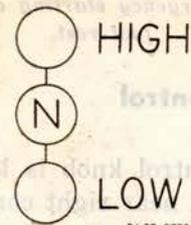

Figure 18. Shifting diagram for transfer gear shift lever.
low-speed range for rough or hilly driving conditions. The gears are in low-speed range when shift lever is in extreme rear position LOW (fig. 18), in high-speed range when lever is in extreme forward position HIGH and in neutral N when in center position.
b. Be sure the transmission and transfer gear shift levers are in neutral (figs. 18 and 19).